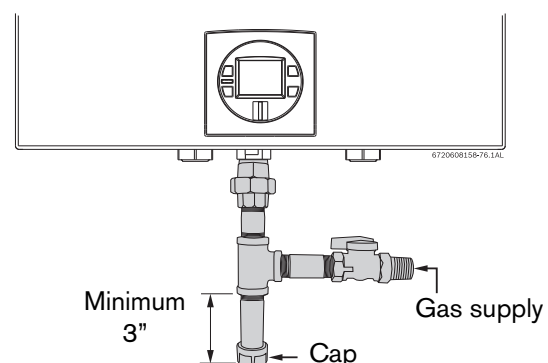

Fig. 32 Gas connection (drip leg)
- ▶ National Fuel Gas Code requires that a sediment trap (drip leg) be installed on gas appliances not so equipped. The drip leg must be accessible and not subject to freezing conditions. Install in accordance with the recommendations of the serving gas supplier, see Fig. 32.